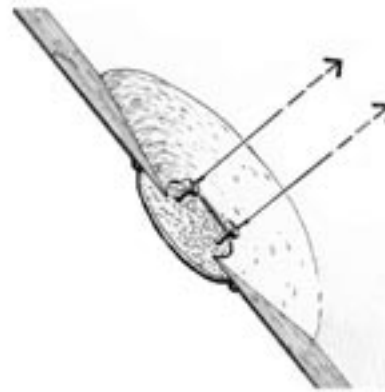

Figure 4-4. Pull the backer tight against the inside of the panel to permanently bond the backer in position.
4. Pull the backer into position on the inside of the panel and tie the strings to a stationary object close to the hole or a stick laid across the hole (*Figure 4-4*). Keep enough tension on the strings to hold the backer in position and bend the backer as necessary to match the contour of the panel. Some of the epoxy mix should squeeze out of the joint. Scrape away the excess and smooth the joint before it begins to cure. Allow the epoxy to cure thoroughly before removing the screws.